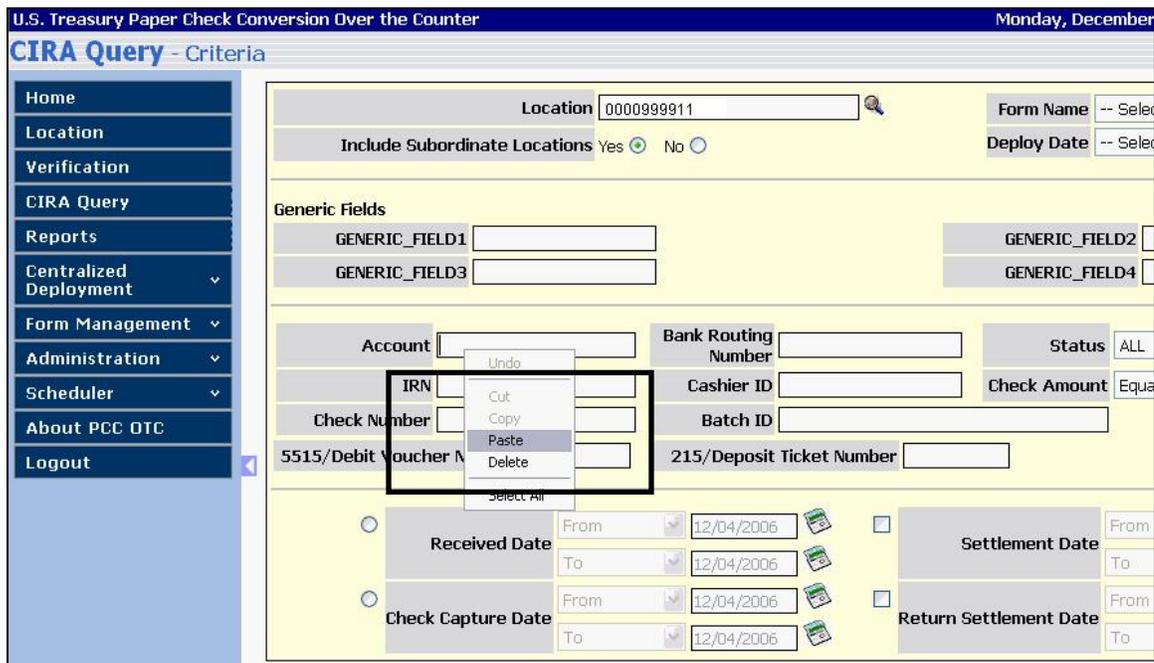

Figure 5.45.3
Step 2: From the ELVIS main menu, click on 'CIRA Query'. Type the ten digit A L C+2 in the 'Location' field then right-click in the 'IRN' field to open up a menu window. Click 'Paste'. (Figure 5.45.3). The IRN will be pasted into the field.